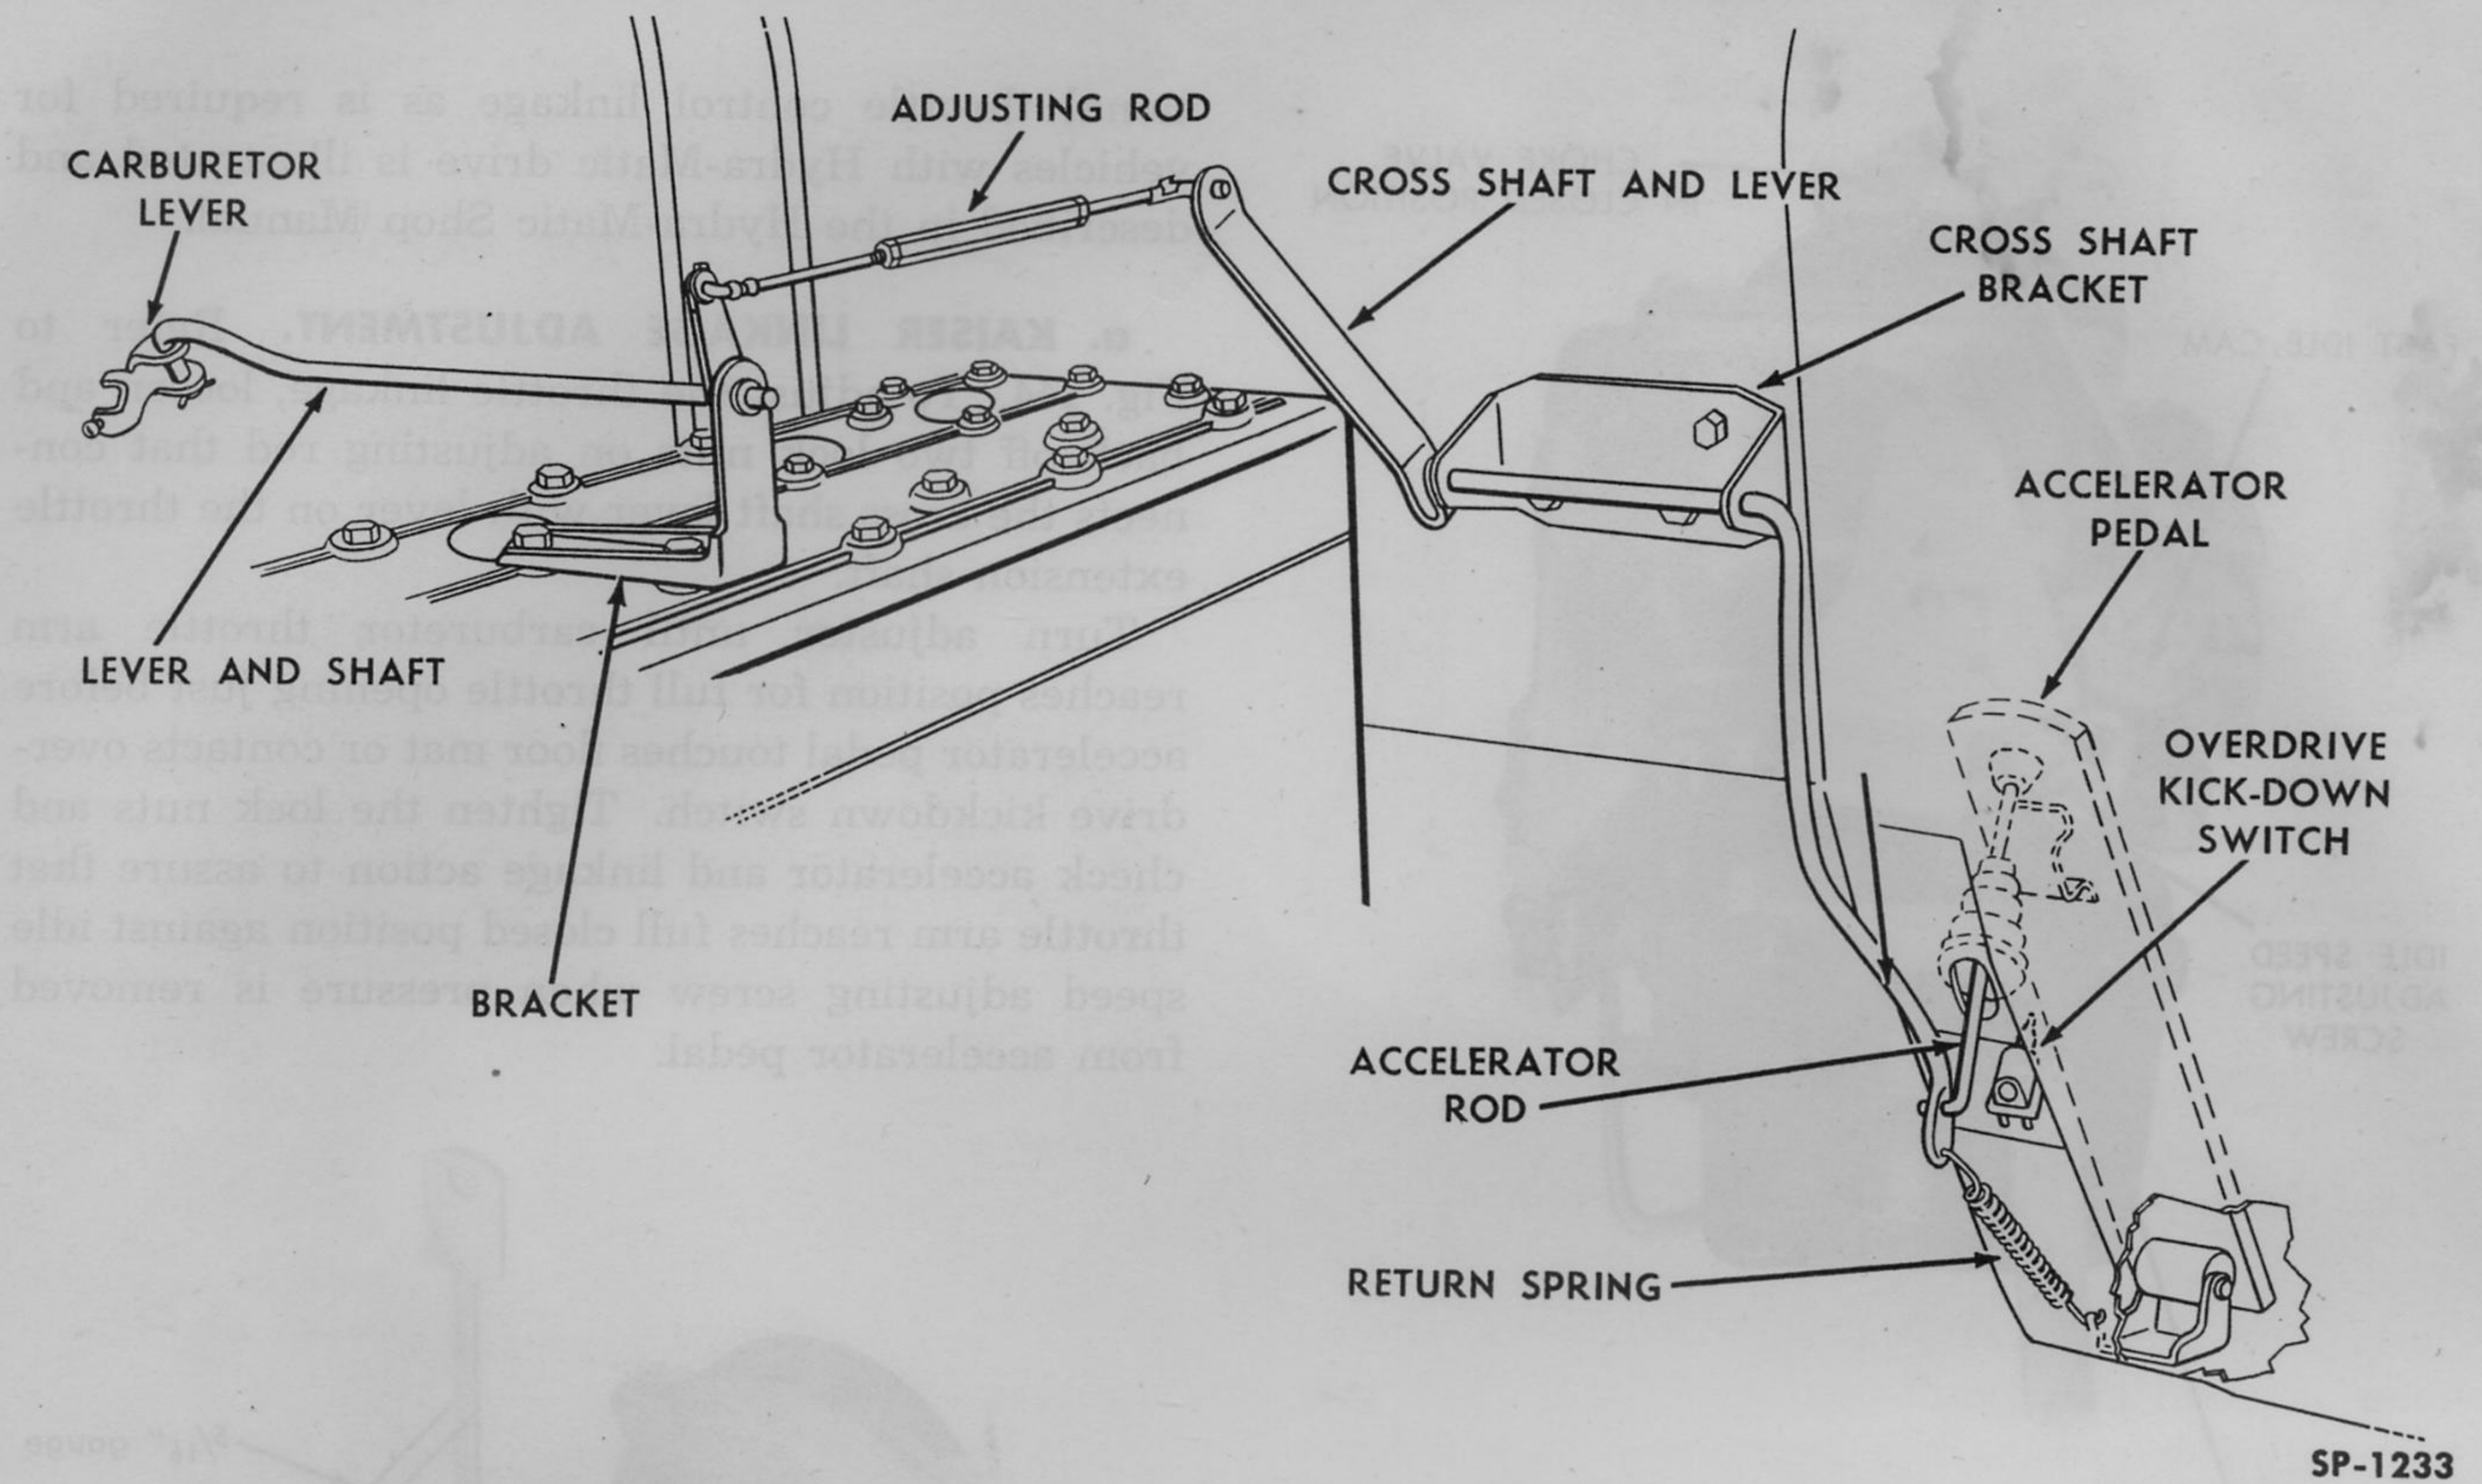
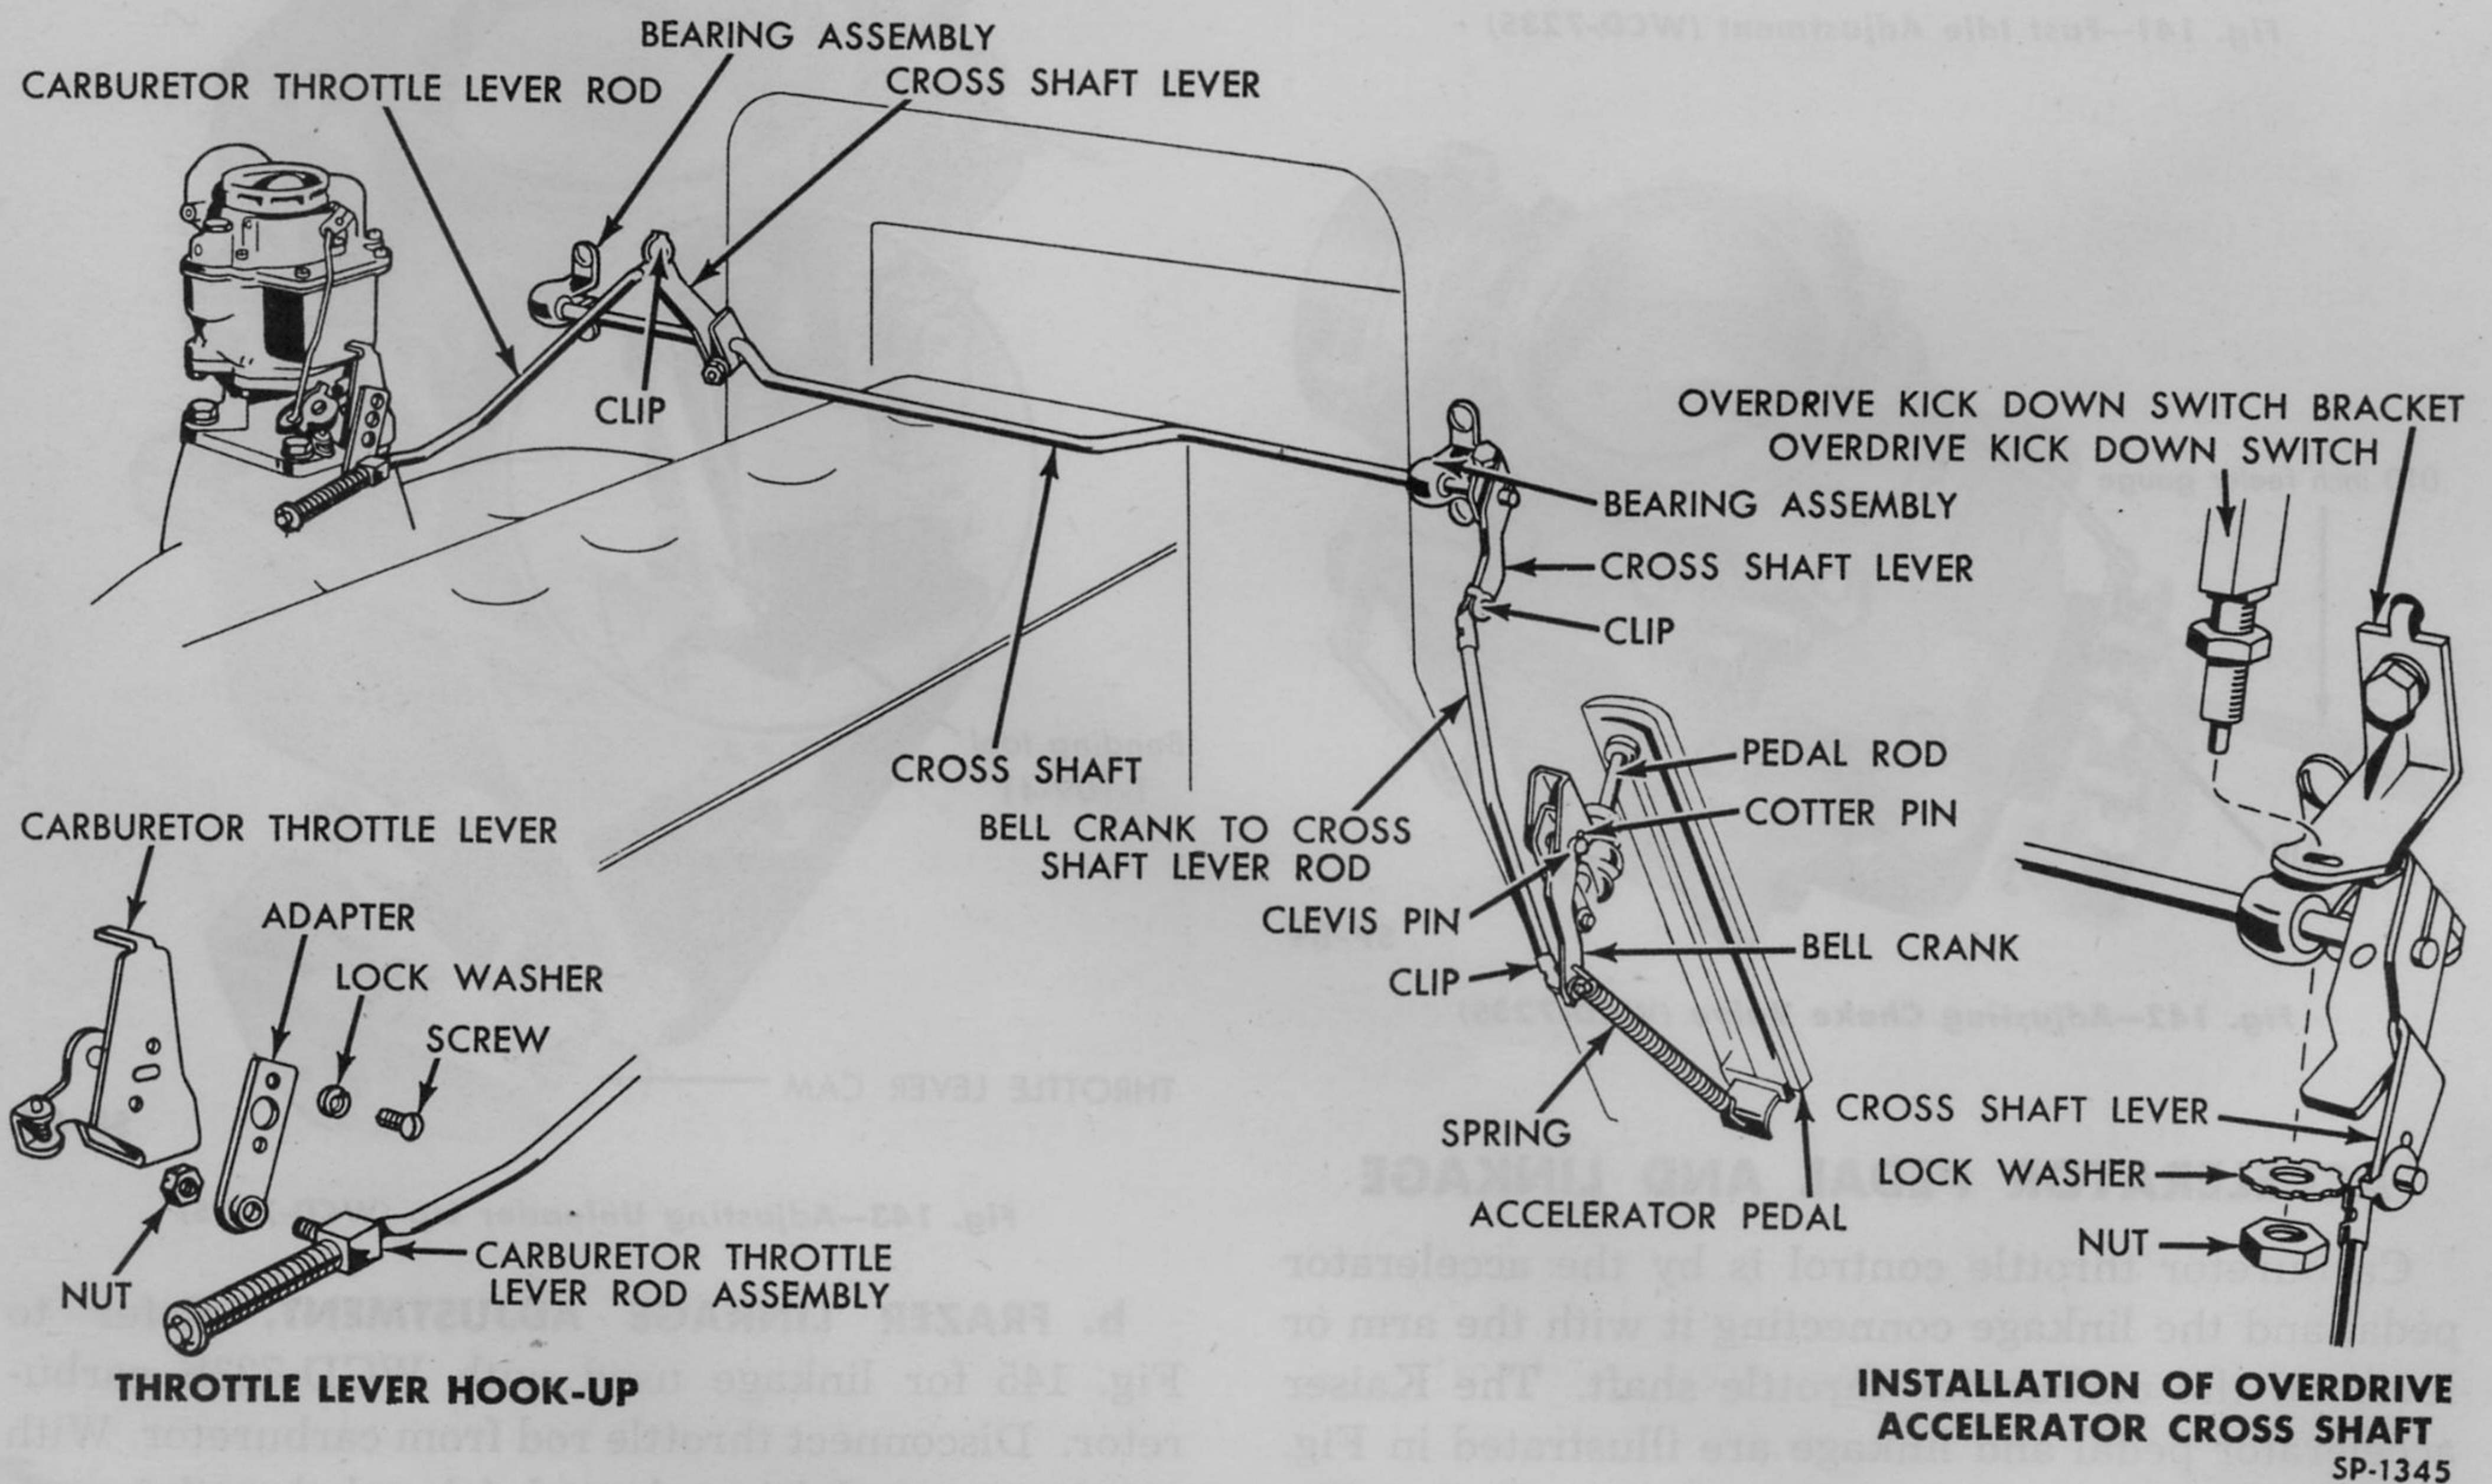

Fig. 144—Kaiser Accelerator Linkage
Fig. 145—Frazer Accelerator Linkage with WCD-723S Carburetor
Carburetor throttle control is by the accelerator pedal and the linkage connecting it with the arm or lever on the carburetor throttle shaft. The Kaiser accelerator pedal and linkage are illustrated in Fig. 144, the Frazer in Figs. 145 and 146. Such addi-
a. KAISER LINKAGE ADJUSTMENT. Refer to Fig. 144. To adjust the throttle linkage, loosen and back off two lock nuts on adjusting rod that connects the cross shaft lever with lever on the throttle extension shaft.
b. FRAZER LINKAGE ADJUSTMENT. Refer to Fig. 145 for linkage used with WCD-723S carburetor. Disconnect throttle rod from carburetor. With accelerator pedal in released (closed throttle) posi-